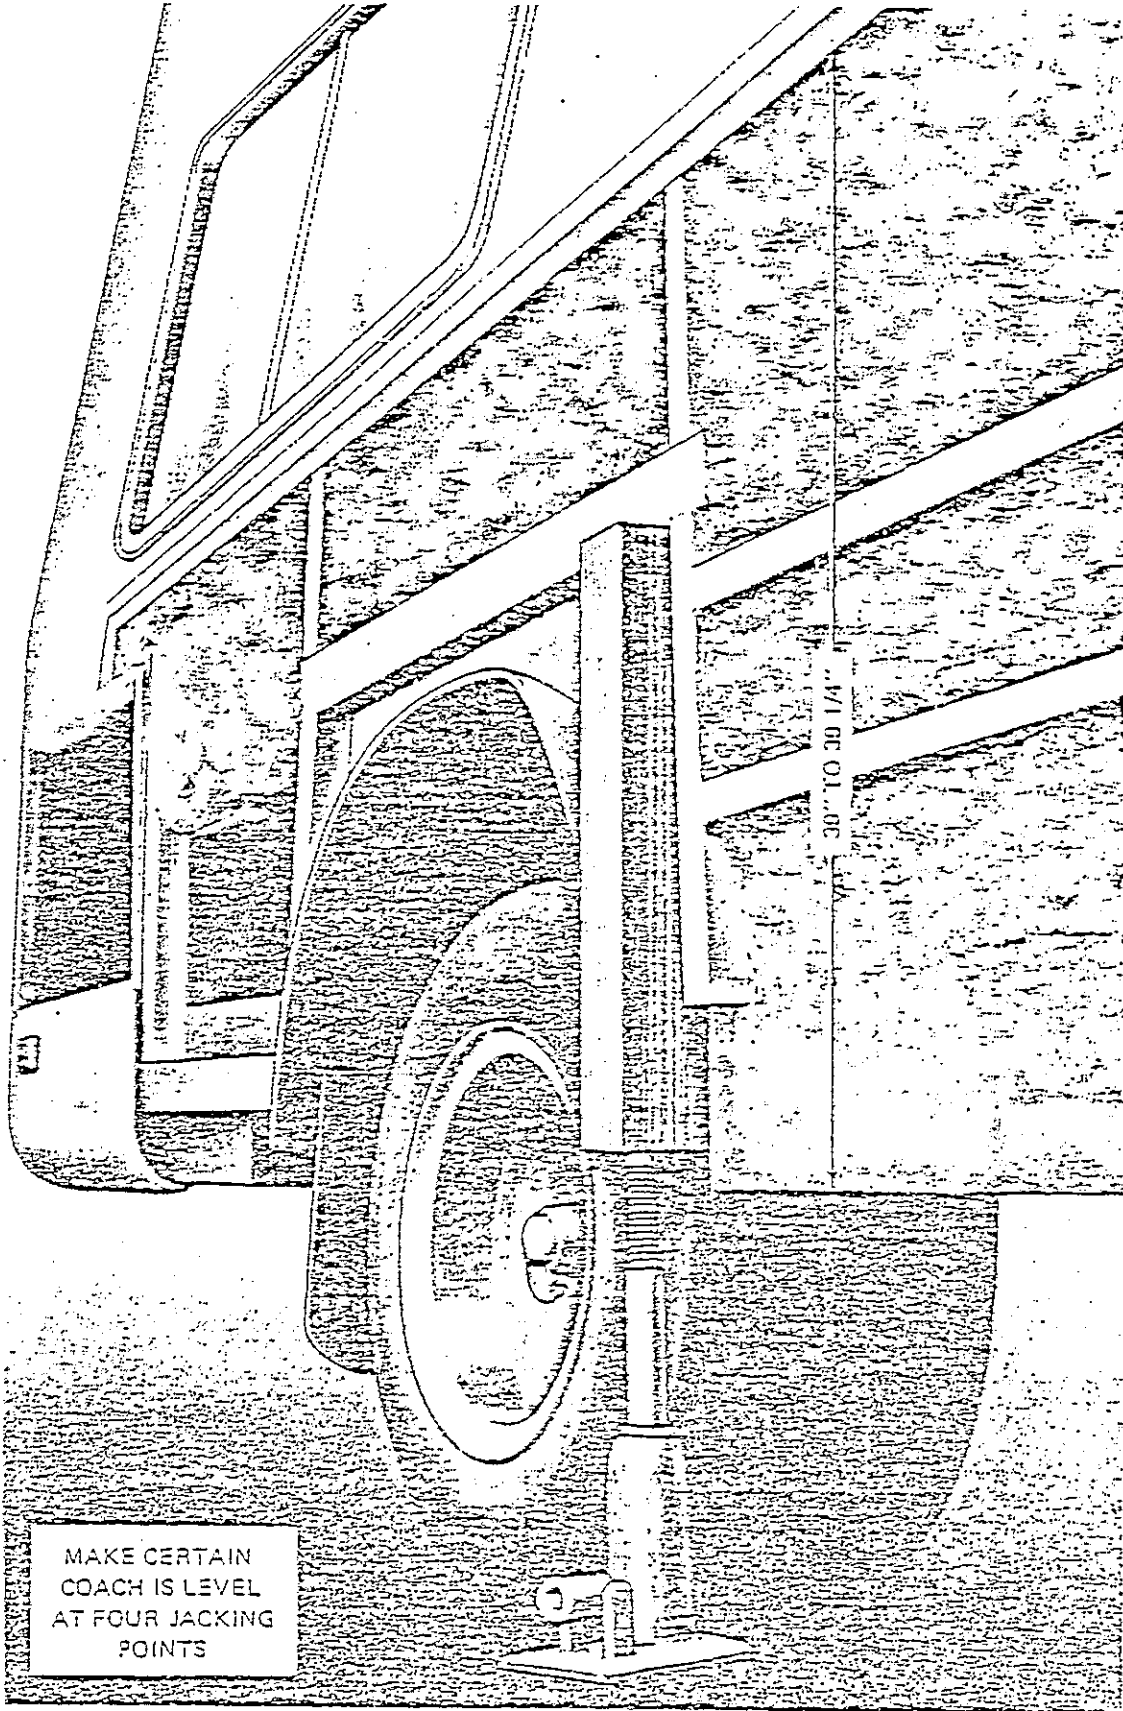

FIGURE 4. BODY TO FRAME DIMENSION.
<p>ACCOMPLISHMENT INSTRUCTIONS</p> <p>A. Hull Section to Frame Angles (Figure 3, positions L4, R4, R2 and R3)</p> <ol style="list-style-type: none"> 1. Make certain coach is level at all four jacking points. Jack up body until distance from horizontal strut (just forward of right rear wheel) to bottom of frame is 39 to 39 1/4" as shown in Figure 4. 2. Realign rivet holes as close as possible. 3. Close gap between upper body section and lower frame with C clamp. 4. Cut out shear panel only as necessary to install reinforcing angles. 5. Grind or file off existing rivet heads to make angles flush with shear panel. 6. Apply zinc chromate primer to reinforcing angles in all areas that come in contact with aluminum. 7. Place reinforcing angles (5109097-01) against the body section and flush with lower frame. Secure with C clamps. 	<p>MODEL (S) AFFECTED</p> <p>All Motor Homes 00001 to 01050 Model 2900R</p>